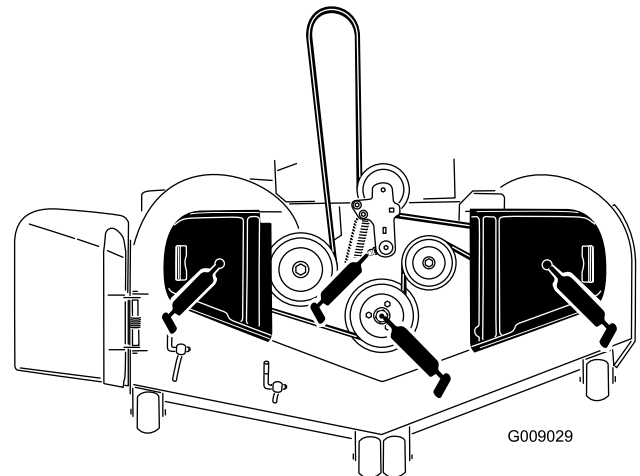

Figure 41
3. Grease the mower deck idler pulley pivot until grease come out the bottom (Figure 41).
4. Grease the 3 spindle bearings until grease comes out the lower seals (Figure 41).